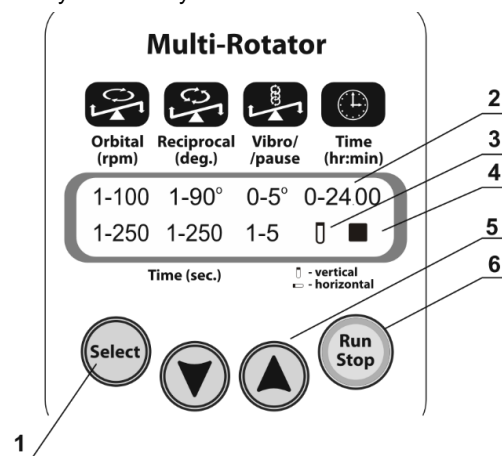

Fig. 1. Control panel
- 4.4. Press the **Run Stop** key (Fig.1/6) to start the program.
- 4.5. The platform motion will begin and the corresponding indication (►, Fig.1/4 and the changing time values) will be shown on the display.
- 4.6. If the operation time is not set and the timer indicator (Fig.1/2) shows 0:00, pressing the **Run Stop** key will cause continuous operation of the rotator until the **Run Stop** key is pressed again.
- 5.1. Press the **Select** key (Fig.1/1) to choose the parameter to change (the active parameter is flashing).
- 5.2. Use the **▼** and **▲** keys (Fig.1/5) to set the necessary value. If the key is pressed for more than 2 s, the numerical values change quickly.
When the tube icon (Fig. 1/3) is in vertical position, reciprocal rotation starts from tubes in vertical position (platform in horizontal position).